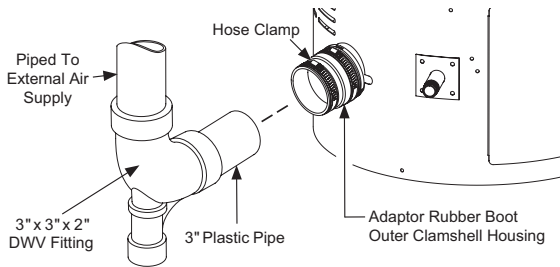

Figure 15. Air Inlet Piping
- Loosen the hose clamp at the adaptor rubber boot and slide the plastic piping into the adaptor rubber boot. With piping in place, tighten the hose clamp. Install a 3" x 3" x 2" drain/waste/vent fitting to trap airborne particulates. See Figure 15.